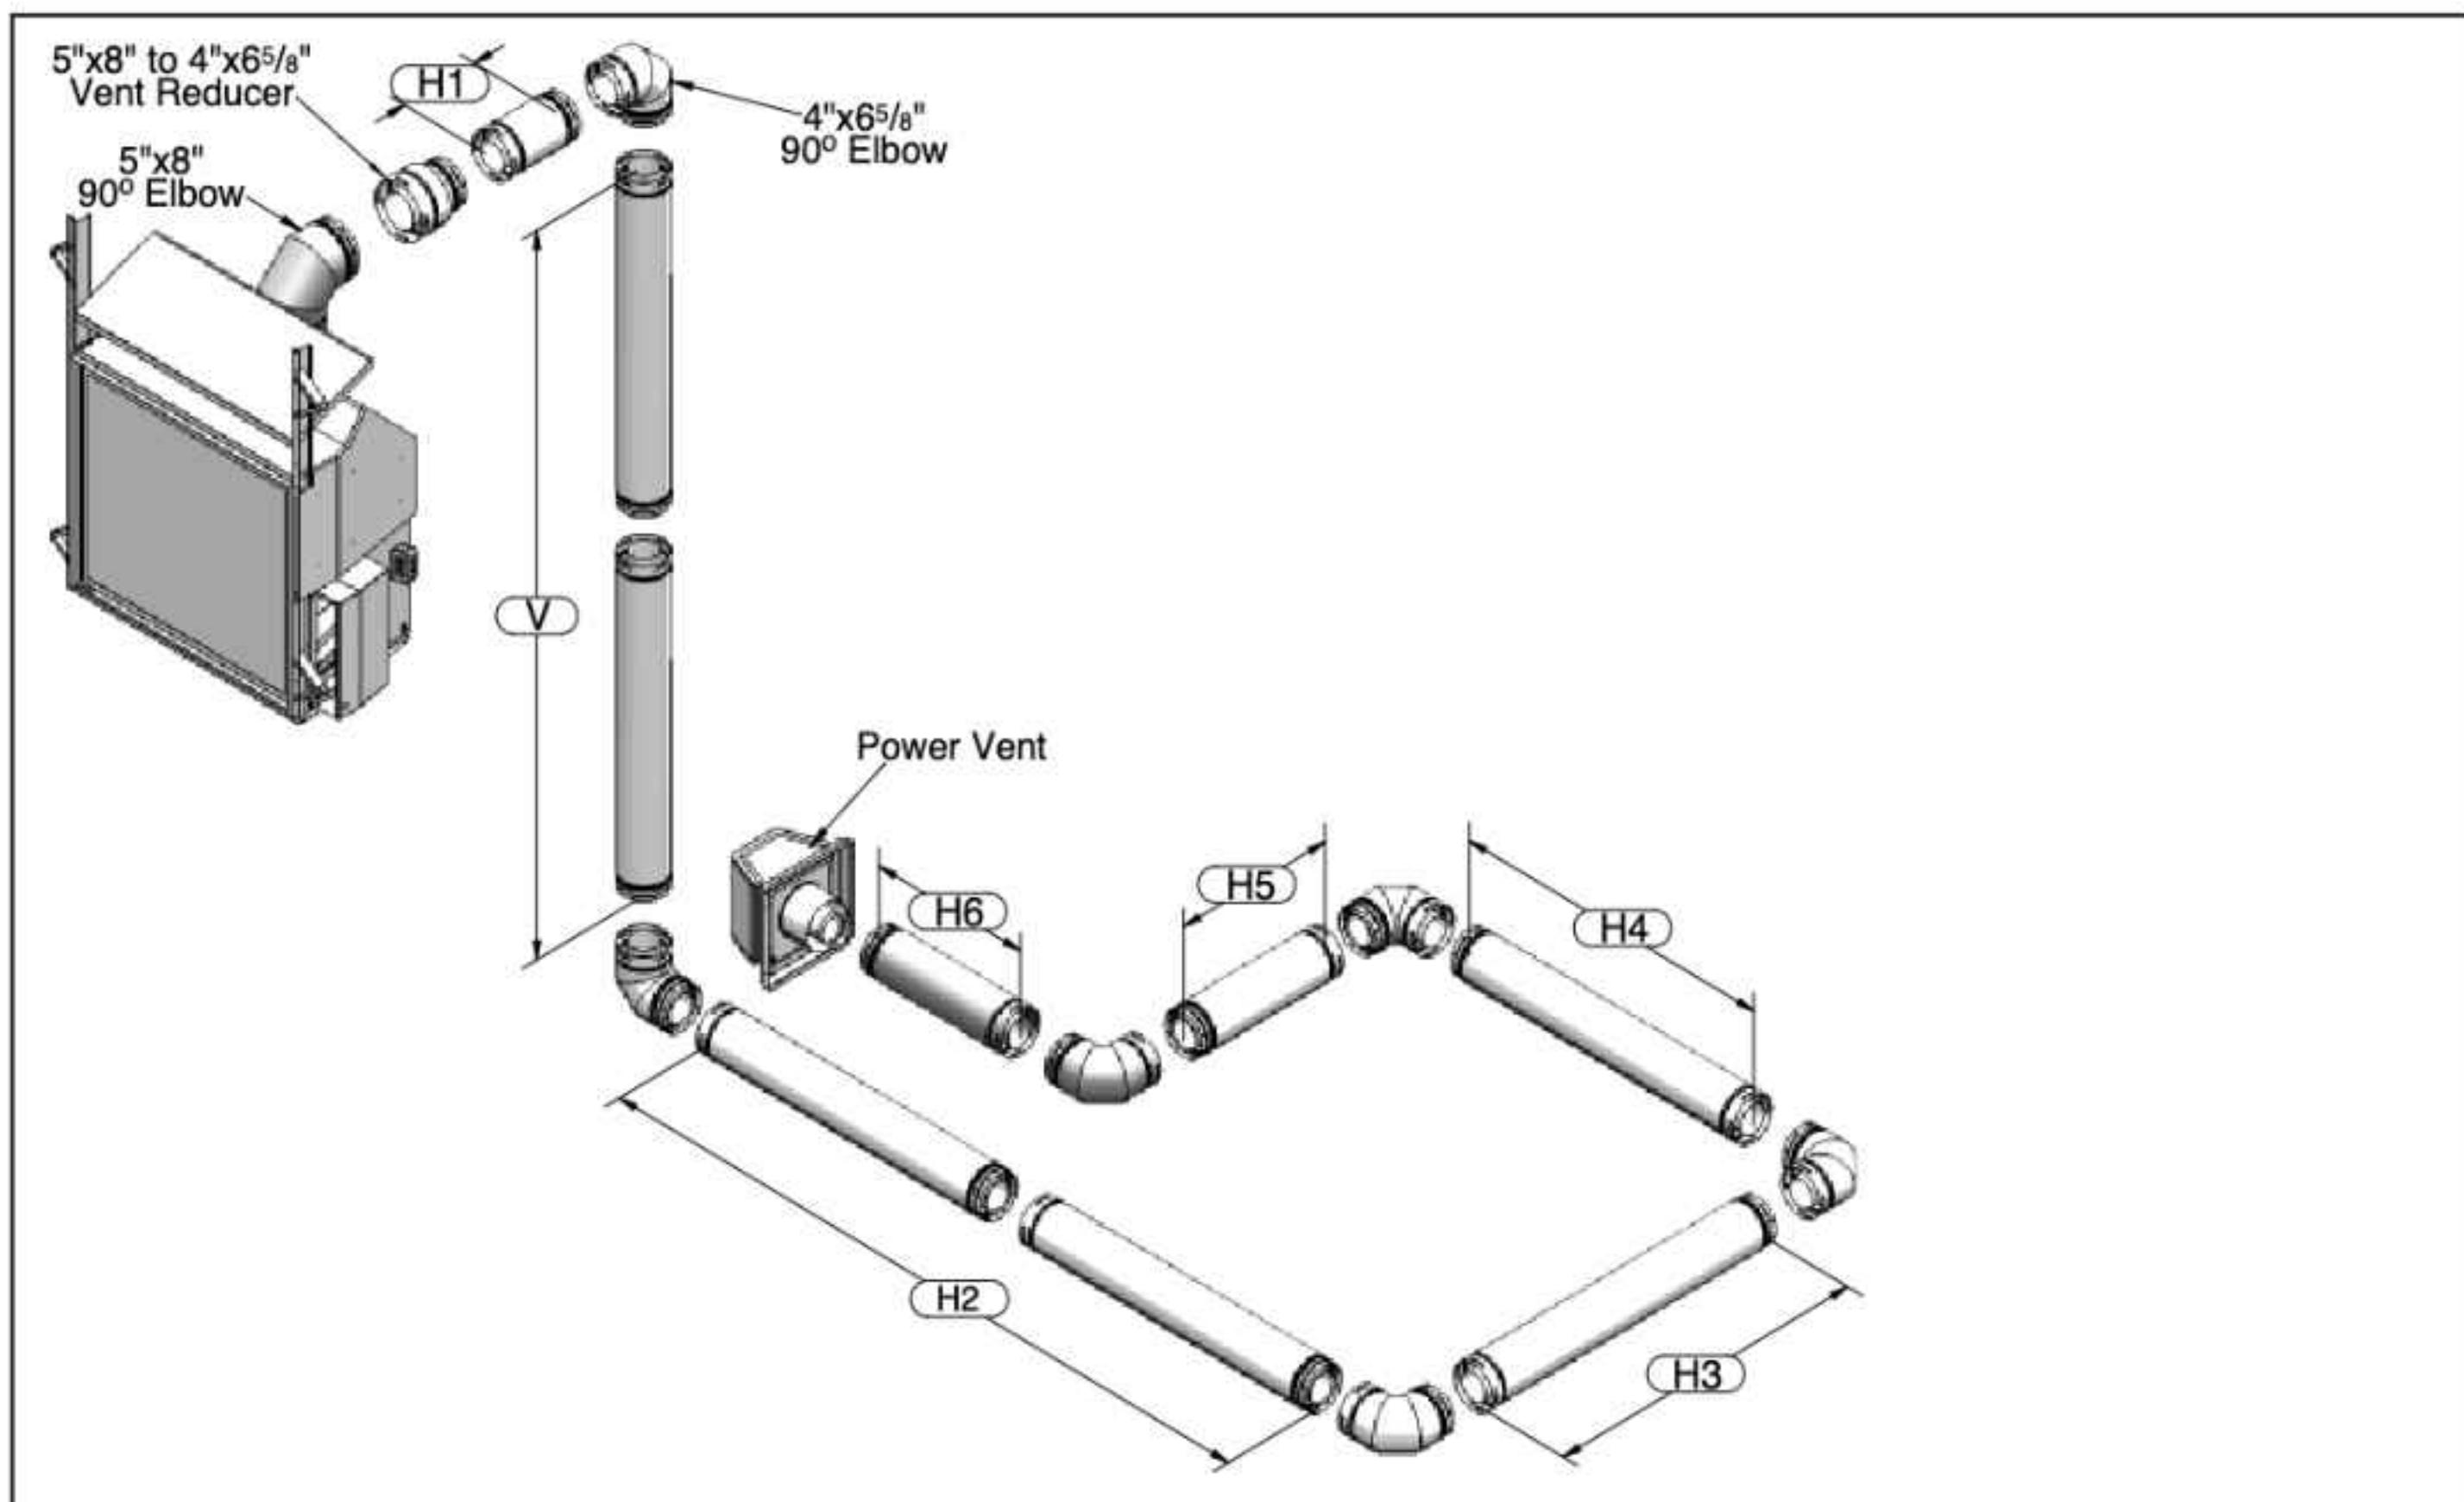

Figure 2: Below-grade installation with maximum number of elbows.
- Maximum vent run is 100 feet (30.5m) ( $H_1 + V + H_2 + H_3 + H_4 + H_5 + H_6$ ), refer to Figure 2.
- Maximum below-grade installation is 8 feet (2.4m) (V).